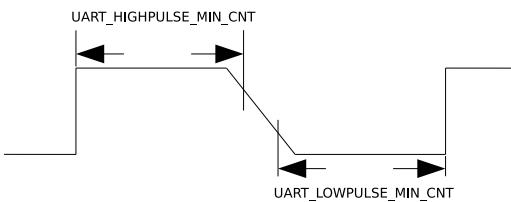

Figure 8-4. The Timing Diagram of Weak UART Signals Along Falling Edges
2. If UART signals are weak along falling edges as shown in figure 8-4, which leads to inaccurate average of **UART_LOWPULSE_MIN_CNT** and **UART_HIGHPULSE_MIN_CNT**, use **UART_POSEDGE_MIN_CNT** to determine the transmitter's baud rate as follows: